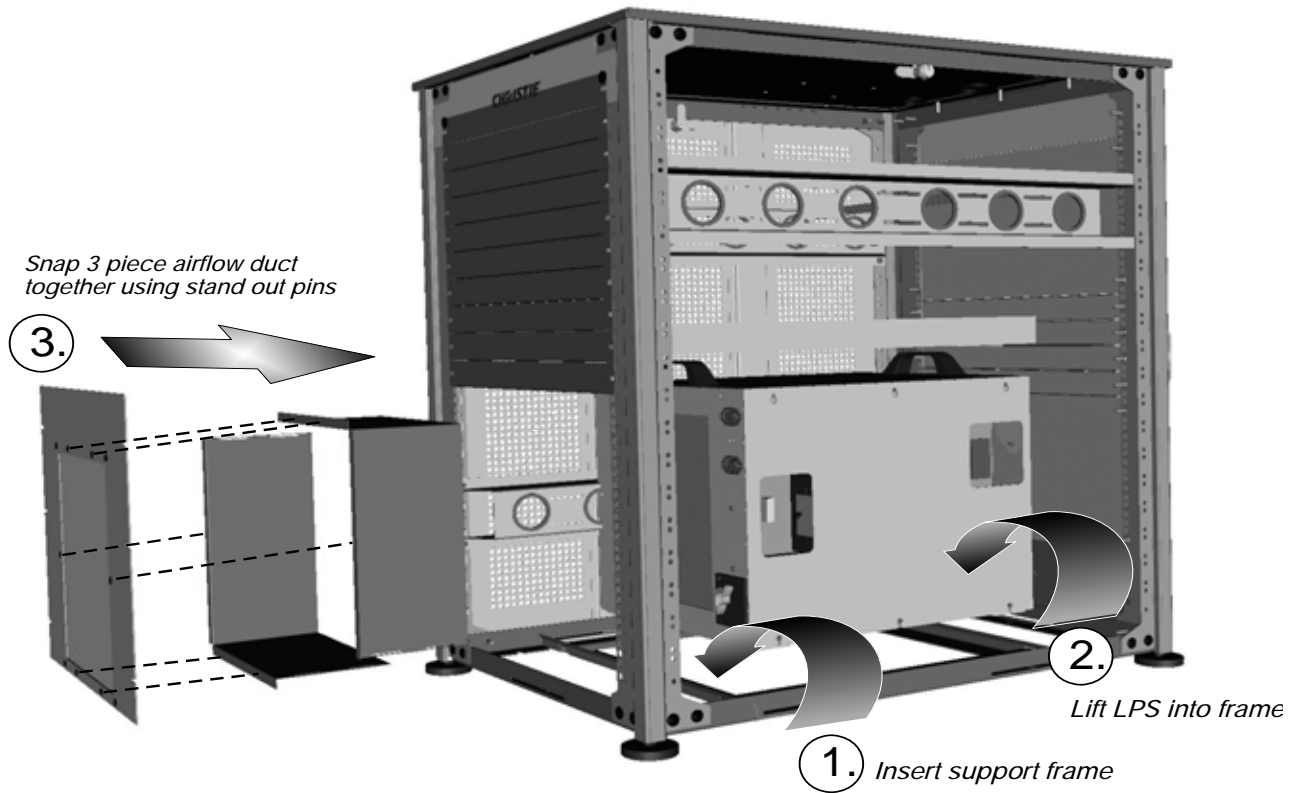

Figure 2-4 Steps to Installing LPS
- f. Assemble the three piece airflow duct (supplied with LPS). See **Figure 2-4**. First snap the 2 “L” shaped parts together, and then snap this into the 6 stand out pins of the third piece (flat panel)..
- h. Insert airflow duct into rack stand from the outside. See **Figure 2-4**.